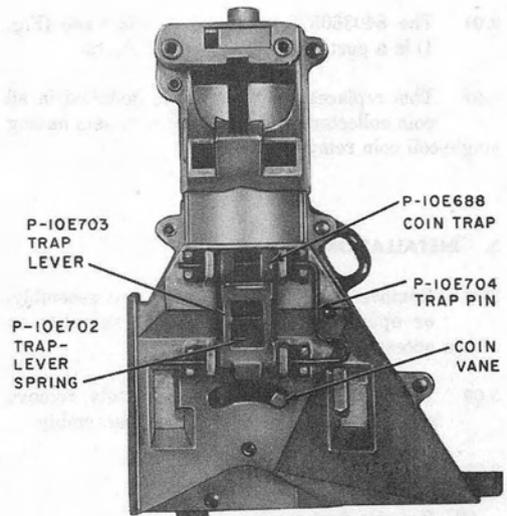

Fig. 2—Coin Trap and Trap-Lever Assembly
- (1) Move vane to right (Fig. 2).
- (2) Remove trap pin by sliding vertical portion over boss on front of hopper and sliding to the right.
- (3) Turn coin trap sideways and remove through opening. ♦ If P-10E702 trap lever spring (Fig. 2) exists, it can be removed from trap lever and discarded or left in place if desired.♦